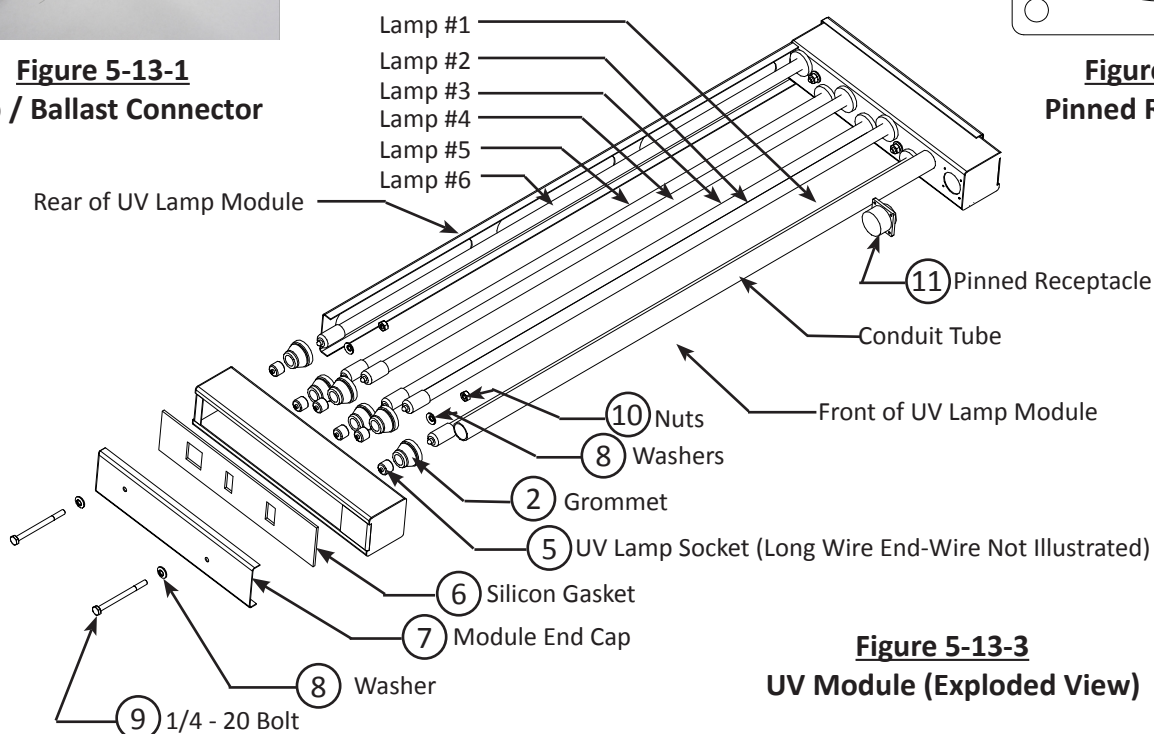

Figure 5-13-3
6. Referring to Figure 5-13-3, remove the two bolts pc #9, washers, pc #8, Module End Cap pc #7, and the Silicon Gasket, pc #6, from each end of the module.
8. Remove the four screws that hold the base of the Pinned Receptacle, Figure 5-13-3 pc #11, to the Lamp Module and pull the base away from the Module until the wires are exposed.
7. Replace the UV Socket Long Wire by tying the end of the cut Long Wire to the socket end of the new UV Socket Long Wire and pull it through the conduit wire way (Refer to Figure 5-13-3).
6. Referring to Figure 5-13-3, Remove the two bolts pc #9, washers, pc #8, Module End Cap pc #7, and the Silicon Gasket, pc #6, from each end of the module.